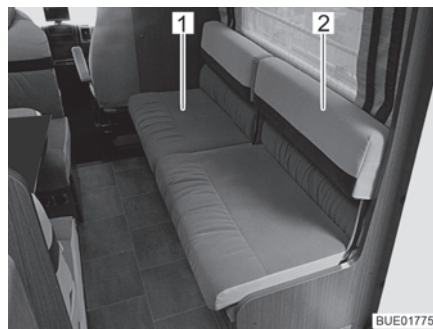

Fig. 97 Adjusting the seat
- Slightly lift the seat (Fig. 97,1).
- Hold the neck cushion (Fig. 97,2) and carefully fold it downwards.